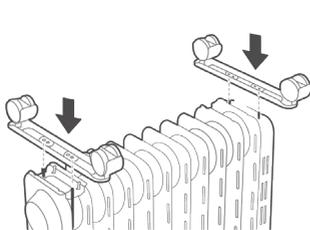

Figure 1
2. As shown in figure 1, align the mounting hole of the castor assembly and install it on the screw of the castor pad plate at the end of the radiator fin. The other castor assembly is aligned to the screws mounted at the bottom of the control box.